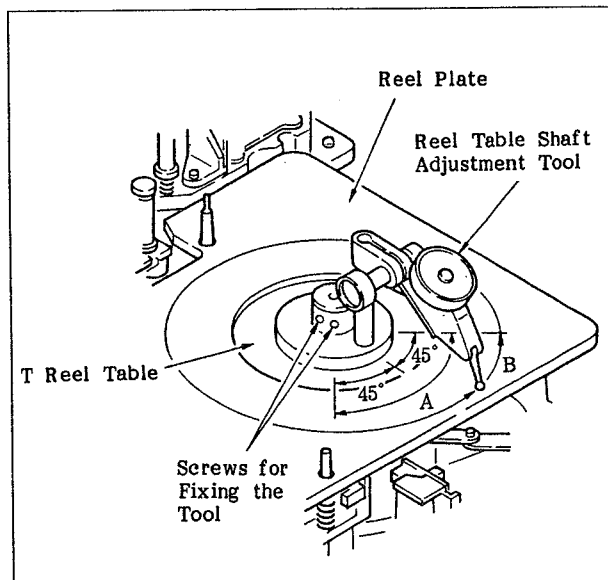

Fig. 6-33-1 Correcting the Deviation of the Reel Motor Shaft (1)
19. Set the reel plate and the reel table shaft adjustment tool. (Fig. 6-33-1)
20. Turn the reel table shaft adjustment tool in the direction of arrow B and check the pointer of the dial gauge indicates the maximum value in the range of A, shown in Fig. 6-33-1, and the difference between the maximum value and the minimum value of the dial gauge is less than 120 to 220 $\mu$ m. If it is not, make the following adjustments. Remove the tool.